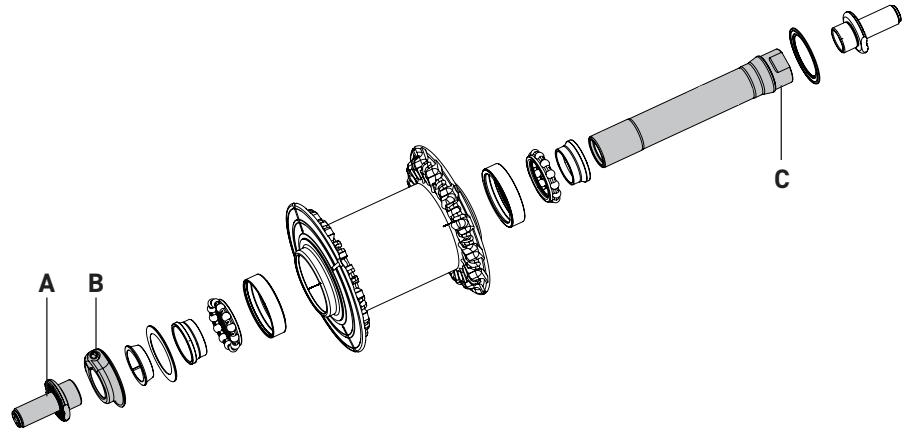

Fig. 23
- Block the axle with a 14 mm spanner placed in position C (Fig. 23) and on the left side where the hub adjustment ring nut B is (Fig. 23), unscrew the adapter A (Fig. 23) with a 17 mm spanner. Instead of the 17 mm spanner a Torx T30 wrench can be used, inserted in the end of the hub.
- Block the axle with a 14 mm spanner placed in position C (Fig. 23) and screw in the adapter A (Fig. 23) with a 17 mm spanner, tightening to a torque of 12 Nm. Instead of the 17 mm spanner a Torx T30 wrench can be used, inserted in the end of the hub.